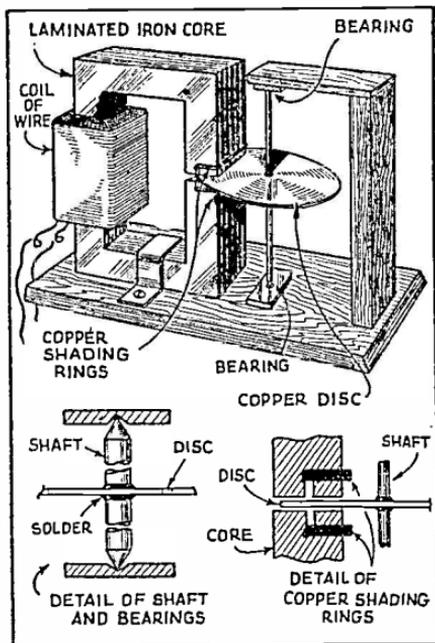

Fig. 31. Simple Eddy Current Motor.
**EDDY CURRENT MOTOR.** Probably the simplest imaginable A.C. motor is the one illustrated in Fig. 31 known as an eddy current motor. Here a metal disk made of about 1/32 inch copper or aluminum, is pivoted in such a manner as to be free to rotate in the field of an A.C.